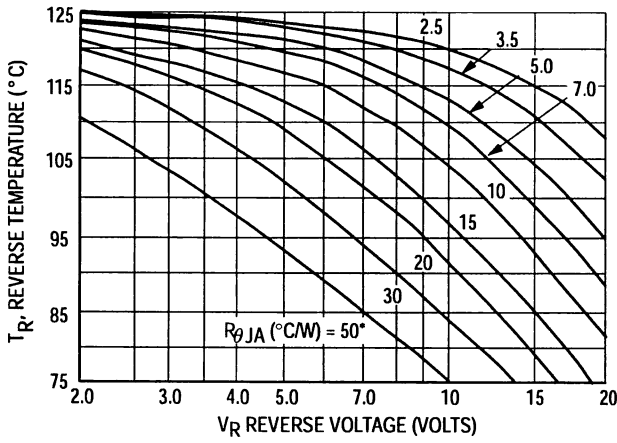

Figure 1. Maximum Reference Temperature – 1N5826
Figures 1, 2, and 3 permit easier use of equation (1) by taking reverse power dissipation and thermal runaway into consideration. The figures solve for a reference temperature as determined by equation (2):
Inspection of equations (2) and (3) reveals that T_R is the ambient temperature at which thermal runaway occurs or where T_J = 125°C, when forward power is zero. The transition from one boundary condition to the other is evident on the curves of Figures 1, 2, and 3 as a
difference in the rate of change of the slope in the vicinity of 115°C. The data of Figures 1, 2, and 3 is based upon dc conditions. For use in common rectifier circuits, Table 1 indicates suggested factors for an equivalent dc voltage to use for conservative design, i.e.: